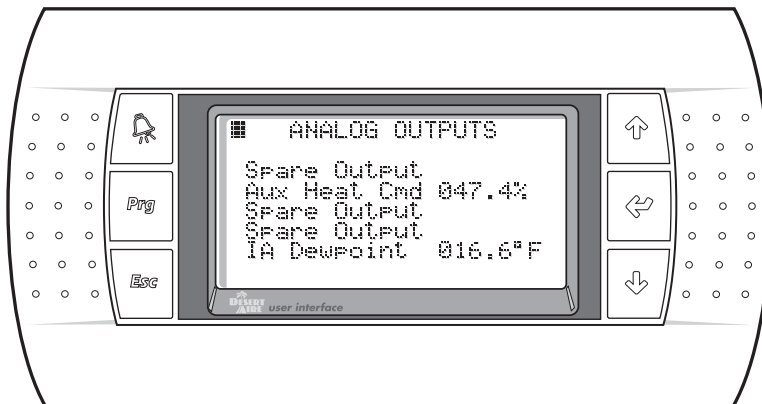

Figure 17
2.3.2.4 Analog Outputs (Figure 17)
into the controller. These screens are provided for troubleshooting of the control system. Figure 17 is shown as an example of what these screens looks like. Refer to your schematic diagram for the specific devices provided. Please note that these devices can be wired into ports J4 of the controller. The analog outputs provided on the external wheel module will be shown in this series of screens for the Aura Q-Pump Inverter Plus dehumidifier.